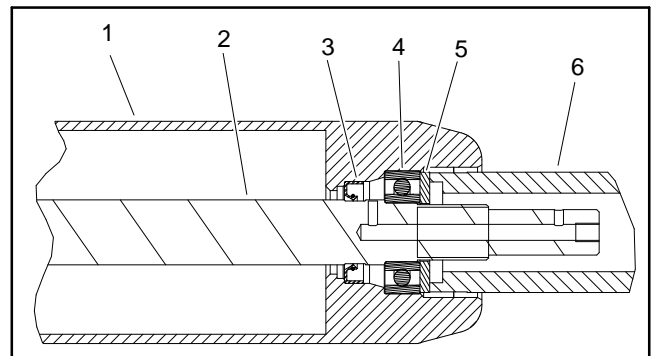

Figure 38
B. Use washer and bearing/outer seal tool (see Special Tools) with a soft face hammer to fully seat bearing (Fig. 38). After bearing installation, make sure that shaft freely rotates and that no binding is detected. If necessary, lightly tap bearing and/or shaft ends to align shaft and bearings. Remove washer from roller.